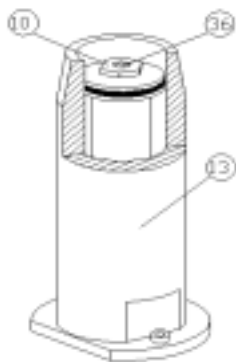

FIG. 12
By turning the aluminum cap (10) clockwise raises the tongue and turning it anti-clockwise will lower it. Once the adjustment has been made, fix the setting by tightening the screw (36) inside the cap. FIG. 12.